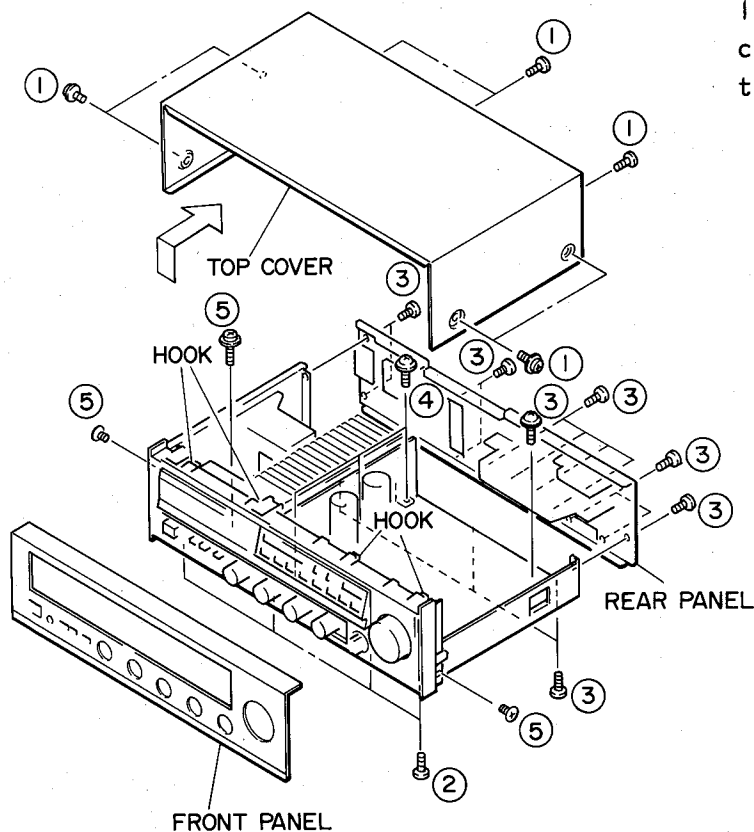
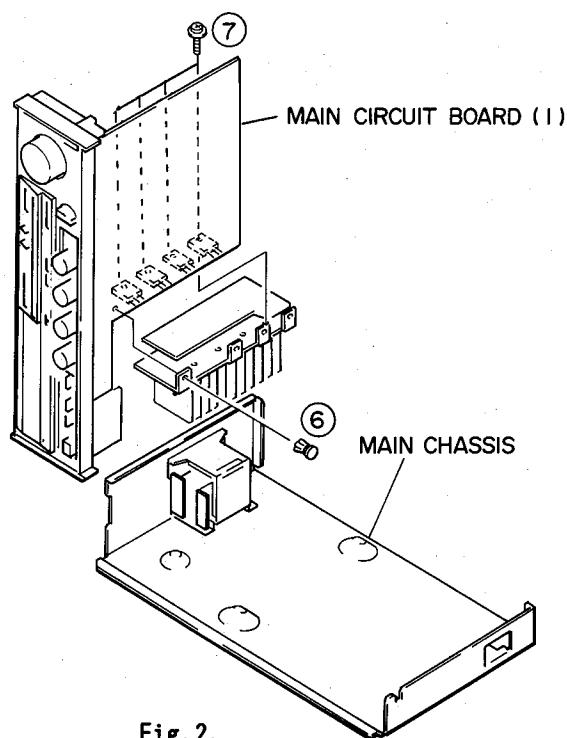

Fig.1.
Fig.2.
Remove 7 screws (①) in Fig.1 and slide the Top Cover back and up.
Remove 4 screws (②) and 4 hooks in Fig.1, and pull the Front Panel forward.
Remove 16 screws (③) in Fig.1.
a. Remove 3 screws (④) in Fig.1.
b. Remove 1 plastic rivet (⑥) in Fig.2.
c. Remove 4 screws (⑦) in Fig.2.
5. Check of Main Circuit Board (1) and replacement of parts.
a. Remove 3 screws (⑤) in Fig.1.
b. Remove the Main Chassis as shown in Fig.2.